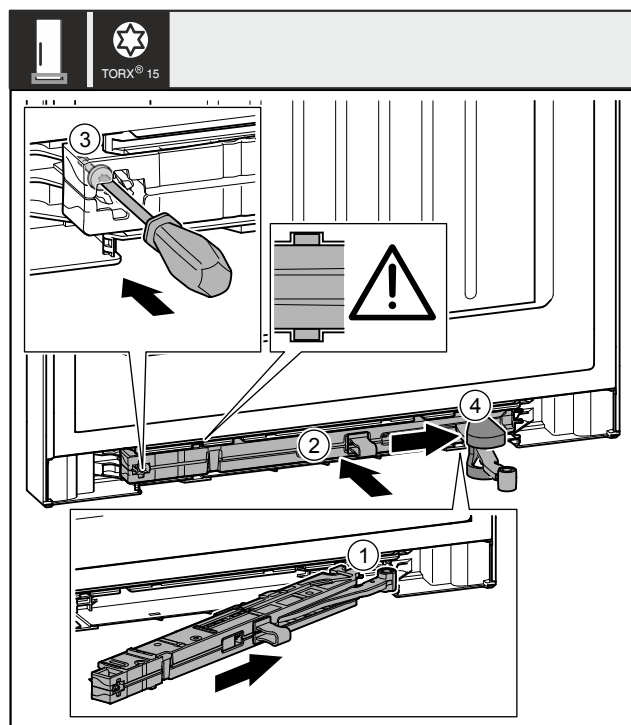

Fig. 46
- ▶ Slide the closing damper unit Fig. 46 (1) on the swap bearing block side up to the stop diagonally into the recess.
- ▶ Push the closing damper unit Fig. 46 (2) completely into the recess.
- ▶ Tighten the screw Fig. 46 (3) with a screwdriver.
- ▶ Push the cover Fig. 46 (4) over the joint.